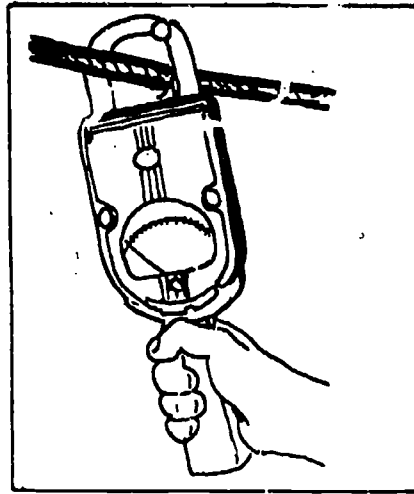

Fig 3-13. Hook-on voltammeter.
- (4) **Ammeter.** Your shop should be equipped with an ammeter capable of reading at least 100 amps. It should be of the internal shunt type. Ammeters are connected in the circuit in series and indicate the amount of amperage being used or "pulled" by the circuit. Ammeters will have a positive (+) lead and a negative (-) lead and are hooked into the circuit so that the electron flow will be from negative to positive. When inserting your ammeter into the circuit, make sure the power is off. Once you are satisfied that your meter is hooked up correctly, turn on the power and obtain a reading. To remove the meter from the circuit, turn off the power, unhook the meter, reconnect the circuit, and turn the power back on. If you are not sure of the direction of the electron flow in the circuit, once you have the meter hooked up, turn on the power momentarily and observe the pointer or needle movement (most ammeter pointers move from left to right). If the needle moves in the wrong direction, reverse the leads and you will be able to get a proper reading. A commonly used ammeter in the Marine Corps is the hook-on-type voltammeter (fig 3-13). This meter simply hooks around the conductor and the current can be measured safely without too much inconvenience. Voltage can usually be read with this meter; however, the switch would have to be set to volts and the leads attached to voltage terminals across which voltage could be measured.